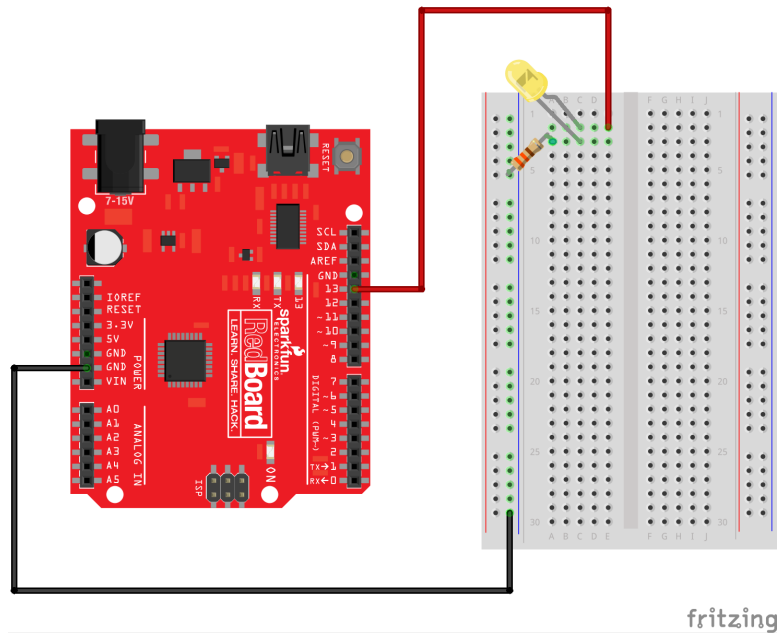

Figure 1: Fritzing diagram for the LED breadboard circuit.
1. Disconnect the Arduino from your computer and build the circuit shown in Figure 1.